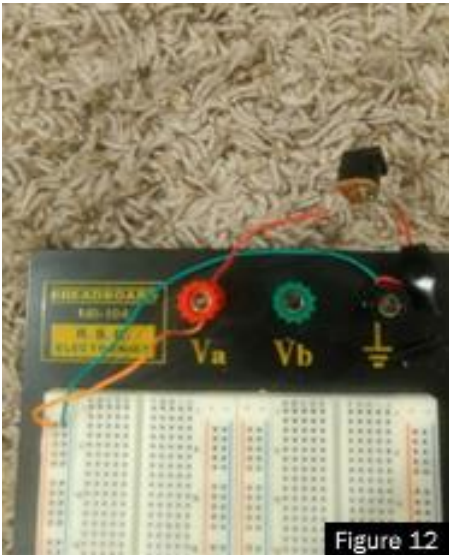

Figure 12
14. Connect the power source as demonstrated in figure 12.